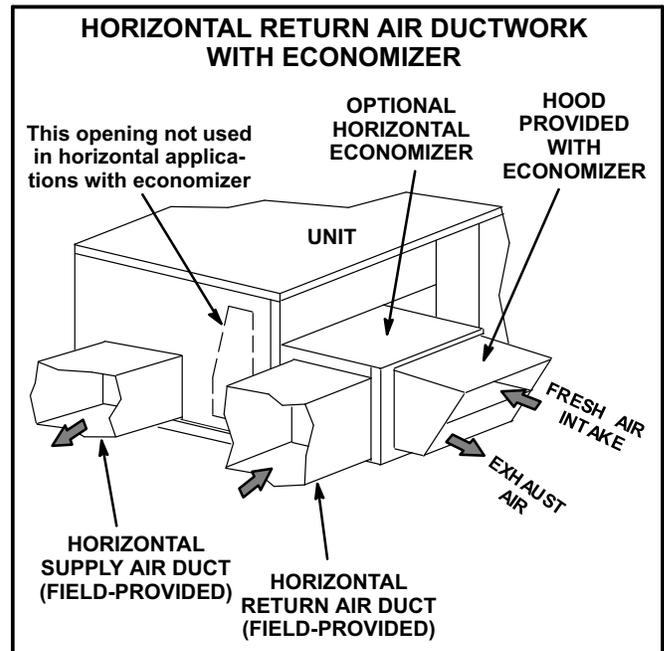

FIGURE 5
- 4- Install return air duct on the intake air side of the horizontal economizer. See figure 5.